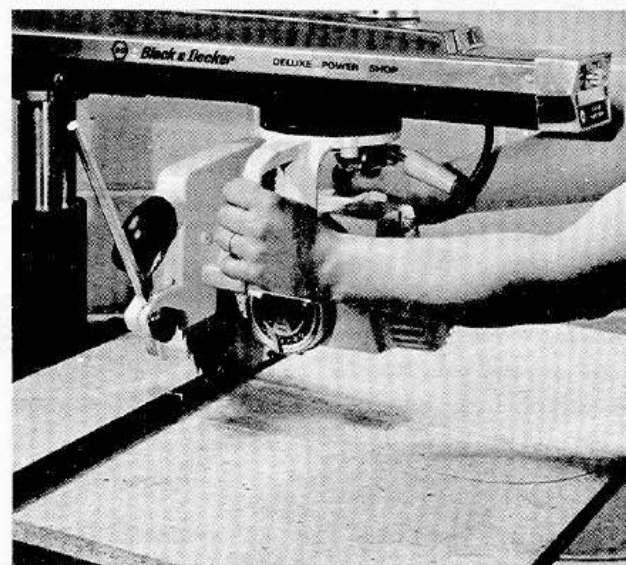

FIGURE 3
- (f) Once the $\frac{1}{4}$ turn cut is complete lock the yoke lock with your right hand and with the blade still revolving push the yoke back on the track until the blade reaches the fence. This will cut the rip through in the center of the table. **Stop Motor.** (Refer to fig. 3)